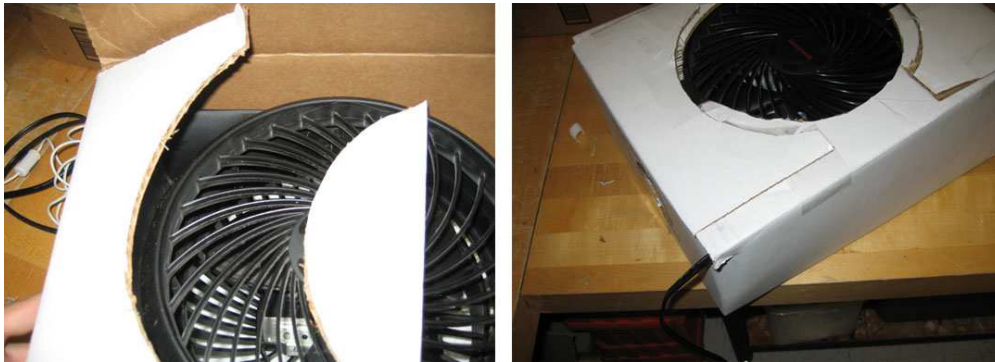

Figure 5. (left) Cardboard cut along marked lines. (right) Flaps attached to one another and sealed, closing off the front of the cooler.
6. Cut out the marked areas on the box flaps (see Figure 5).
7. Tape or glue the flaps down so that they form a seal around the fan. Use packing tape to seal up any other gaps in the cardboard casing so that air may only enter from the back (see Figure 5).